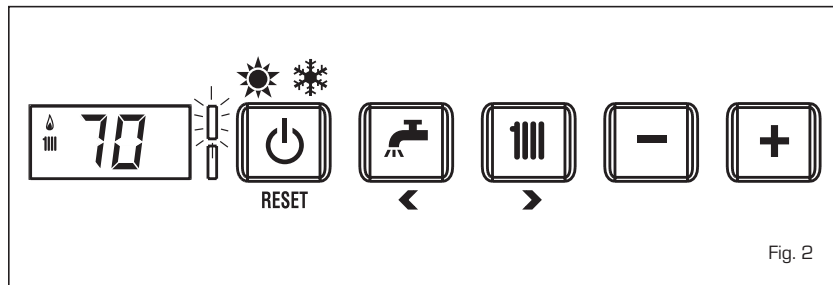

Fig. 2
1.3.2 Regulation C.H. temperature (fig. 2)